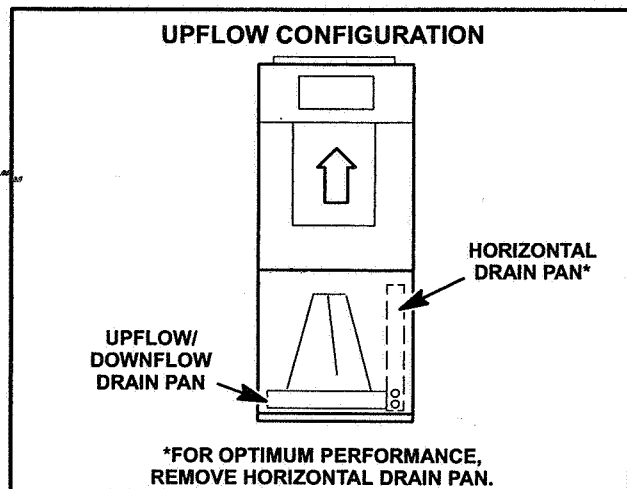

FIGURE 1
- 3 - After removing horizontal drain pan, place unit in desired location. Set unit so that it is level. Connect return and supply air plenums as required using sheet metal screws. See figure 1.